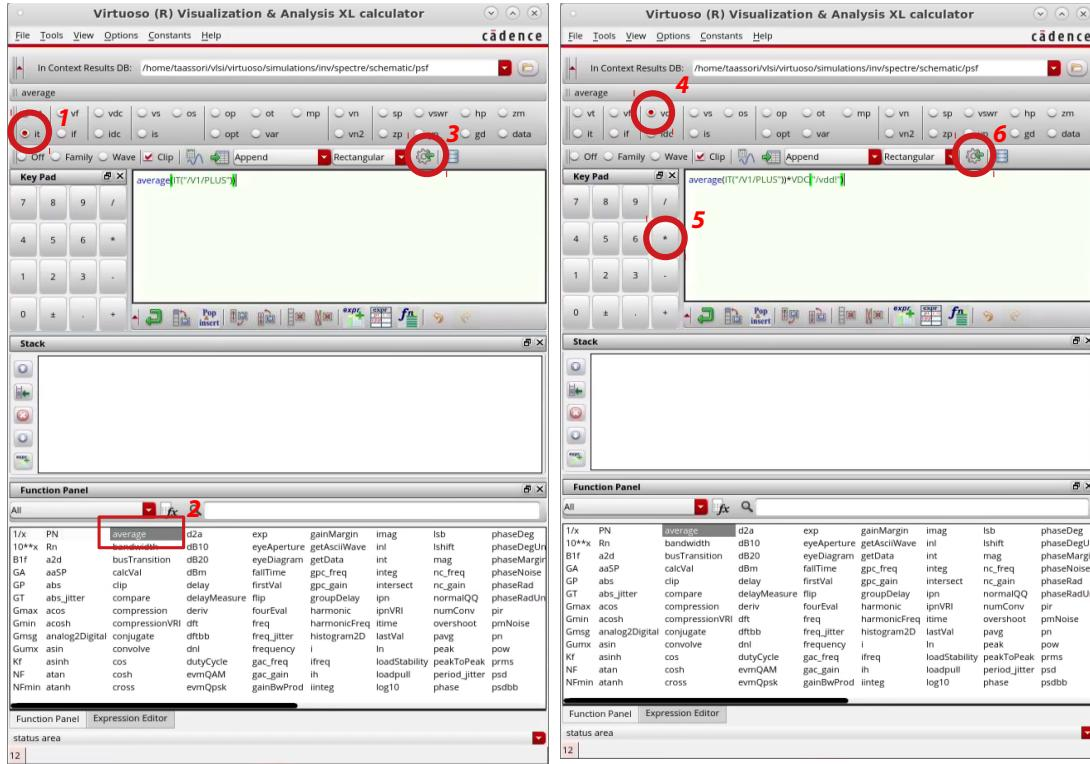

Figure 8: Adding the power equation into the calculator.
- Finally, choose multiply (\*) from the key pad to multiply the average of current and the  $V_{DD}$  voltage which was stored in the stack. Your final equation should look like *VDC('/vdd!')\*average(IT('/V1/PLUS'))*. These steps are illustrated in Fig. 8.